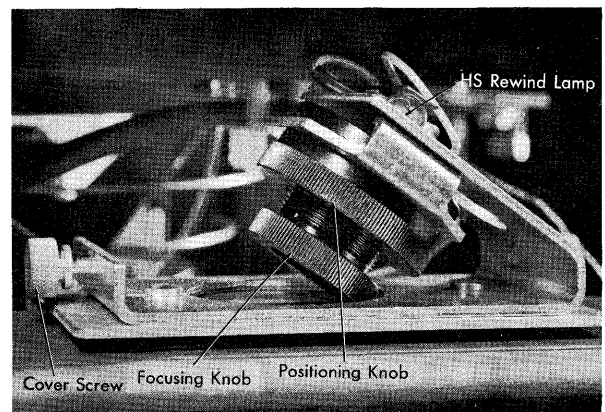

Figure 58. H-S Rewind Lamp Assembly
2. Focus and position the high-speed rewind light (Figure 58) so that the vertical slot of light is centered on the photocell in the finger guard between the reels.